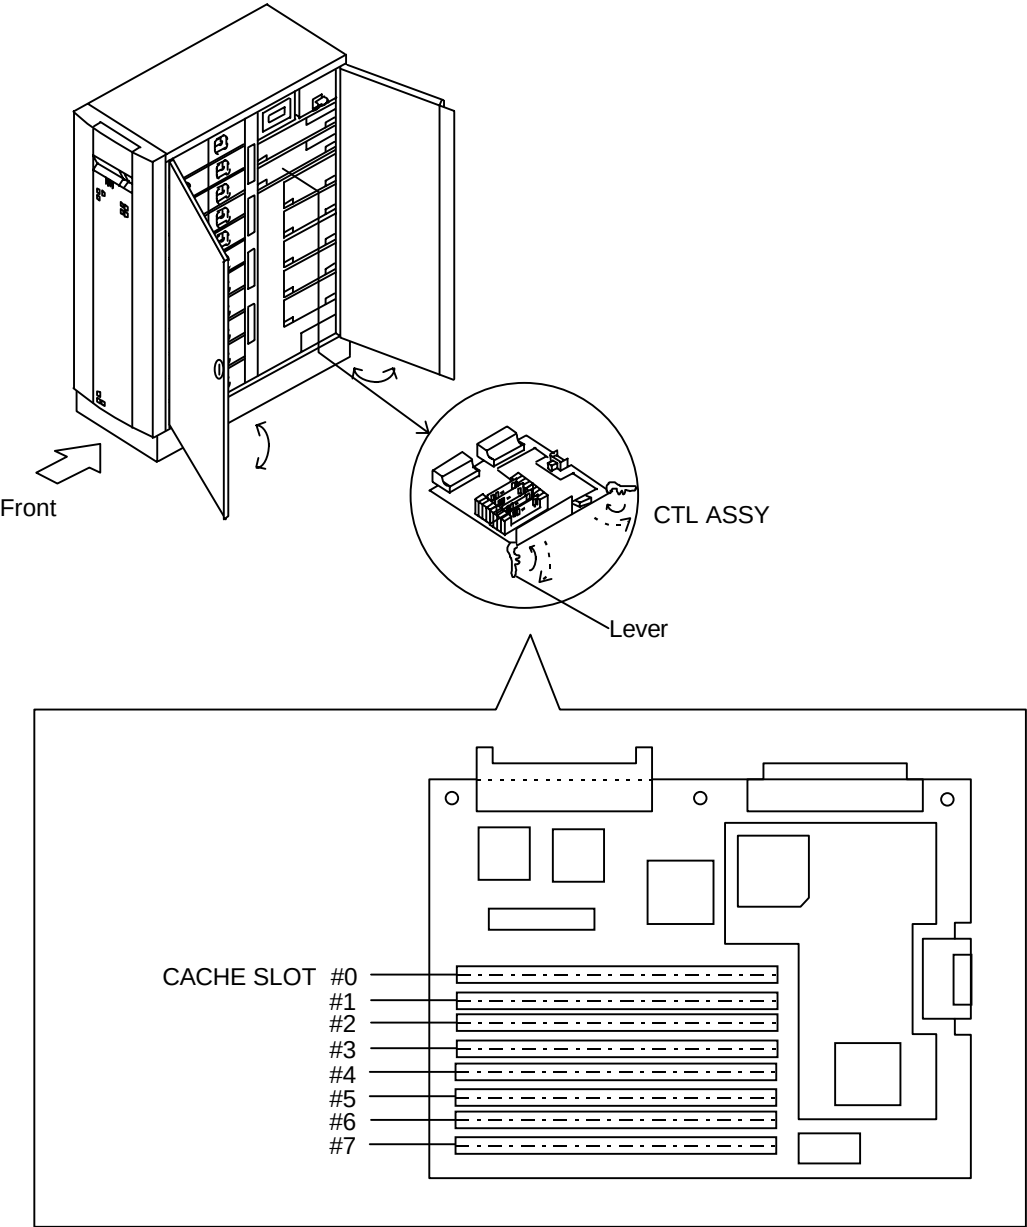

Figure 3.2.14 Installing CACHE ASSY
- ① Open the side covers. (See CK-INST0130.)
- ② Pull out the CTL ASSY. Open the right and left levers to the direction of arrows (···➤) at the same time then remove the CTL ASSY. (See Figure 3.2.14.)
- ④ Insert the CTL ASSY into the former place. Insert the CTL ASSY into the right place with its right and left levers being opened, then close the both levers to the direction of arrows (➡) at the same times. (See Figure 3.2.14.)
- ⑤ Close the side covers. (See CK-INST0130.)